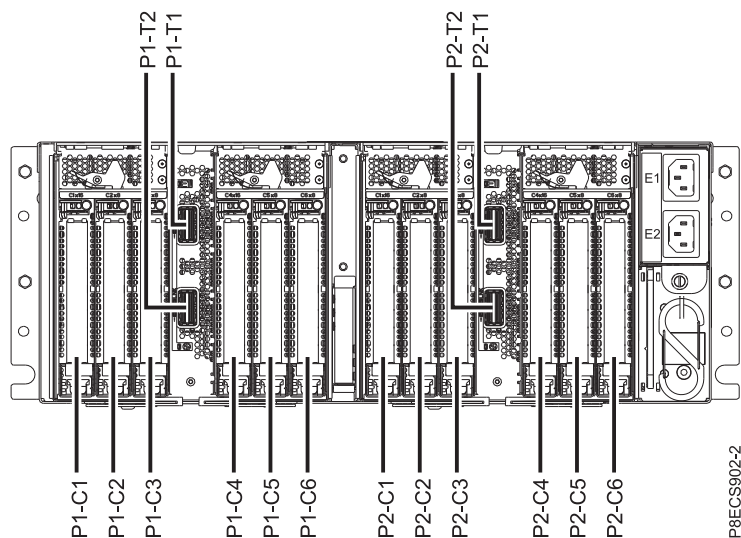

Figure 31. PCIe adapter slot locations in the EMX0 PCIe3 expansion drawer
2. Determine the slot in which you want to install a PCIe adapter. The PCIe adapter slots are located in the I/O module bay that is installed in rear of the EMX0 PCIe3 expansion drawer. Figure 31 shows the PCIe adapter location codes.